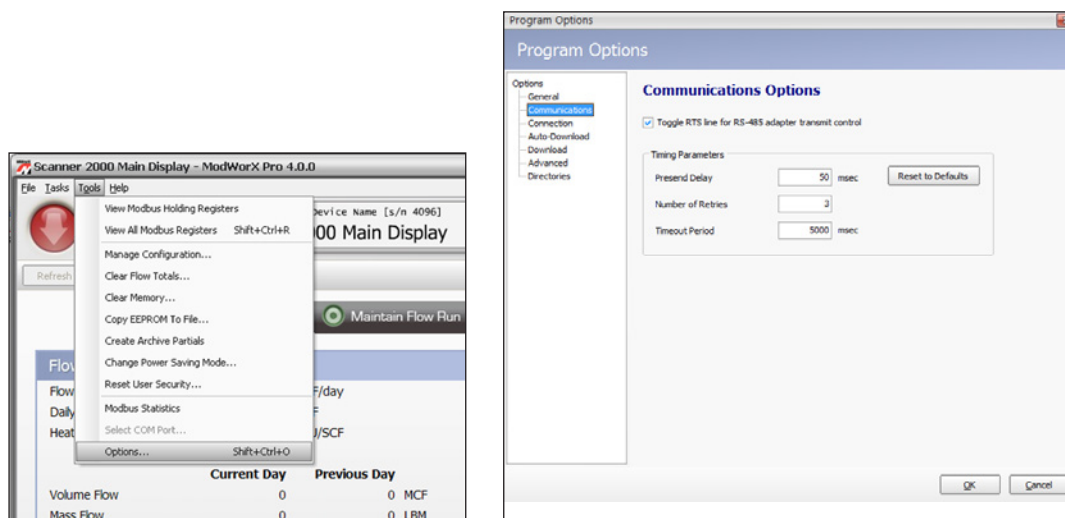

Figure A.19
2. Select **Communications** from the list of options in the left column of the Program Options screen (Figure A.19).